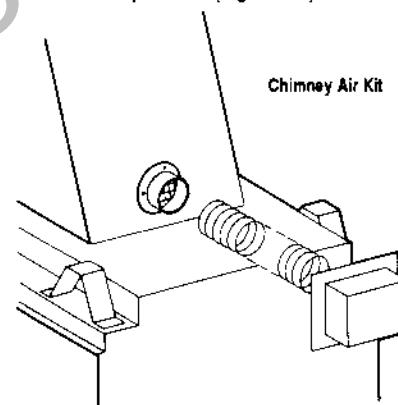

Figure 11
Step 5. Remove one of the knockouts from the transition and attach the 4" (102mm) collar from the CAK-4 air kit to the transition, using the four (4) No. 8 x 1 1/2" screws provided (Figure 11).